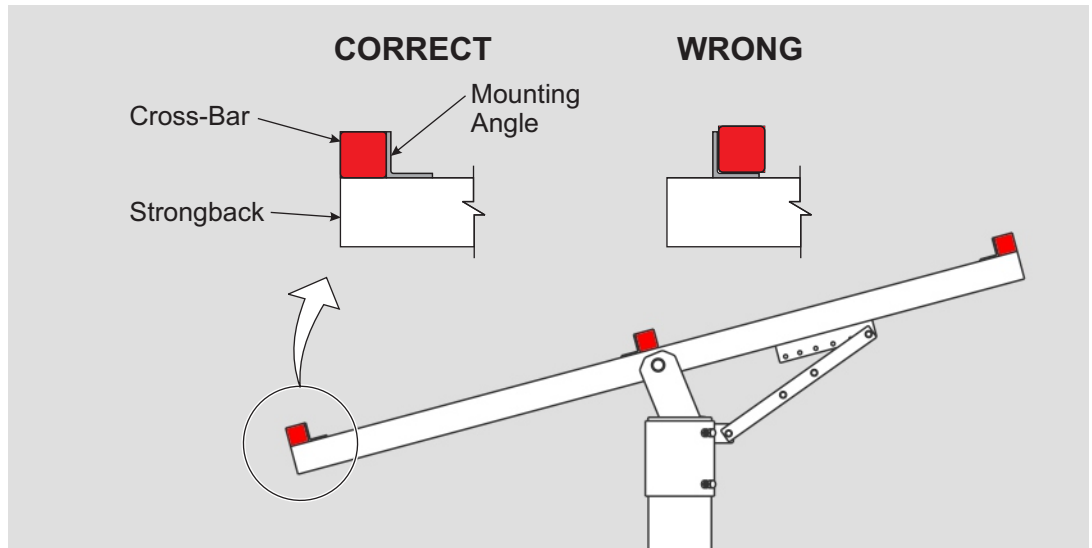

Figure 7-1: Cross-Bar Positioning relative to Mounting Angles
Cross-Bars are mounted to the outside of the Strongback mounting angles (these are welded to the Strongback); they are not nested into the Mounting Angles. (see Figures 7-1 and 7-2)
- B. Continue in this manner and install the opposite Cross-Bar to the Strongback. Refer to Figure 7-1 as needed for proper positioning.